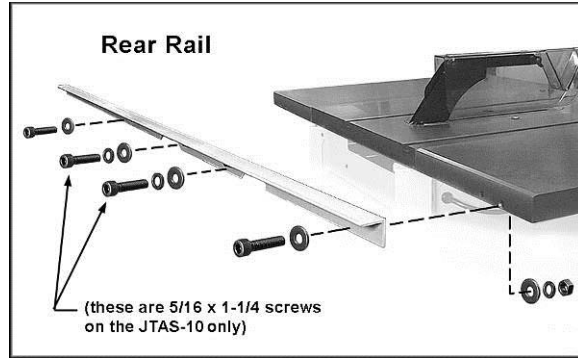

Figure 3
1. Place the **rear rail** against the back edge of the table, making sure the notches in the rail are properly oriented. See Figure 3.